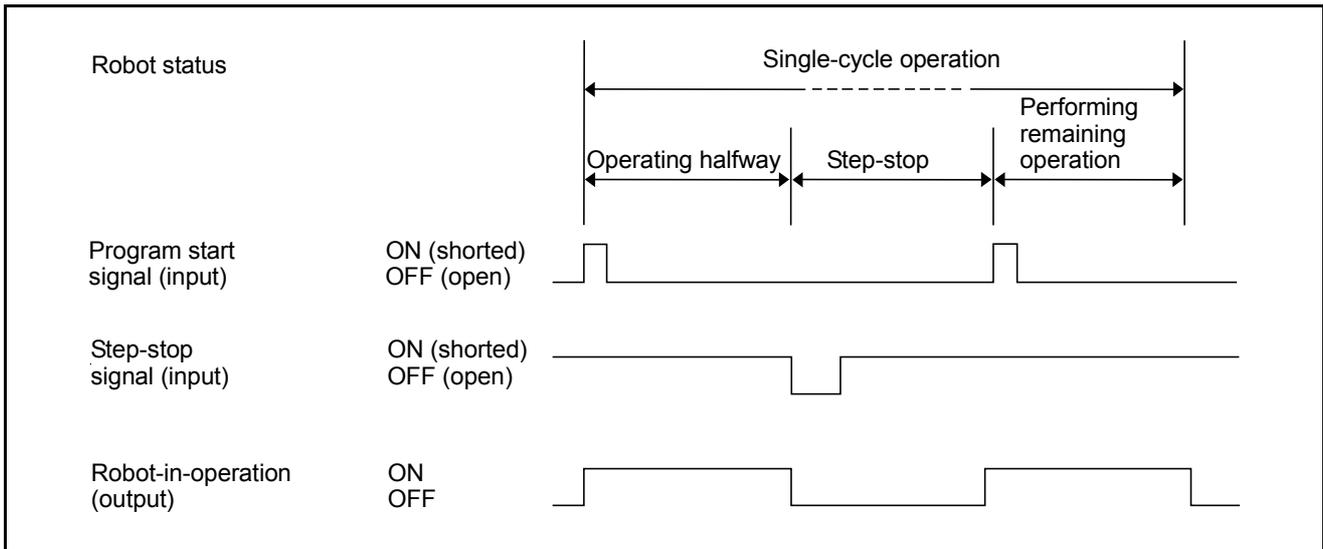

Figure 5-47 Step Stop Signal
**(3) Input conditions and operation**
- ① If the status of this signal is changed from ON (shorted) to OFF (open), the robot will stop all tasks immediately after the ongoing step is completed, and the Robot-in-operation signal will be turned OFF. However, External Auto mode will remain valid, and the suspended program will be resumed by inputting a program start signal. See Figure 5-47.
- ② Turning OFF (open) this signal when inputting a program start signal makes the robot stop step by step.
- ③ Internal operation with the teach pendant is valid only when the status of this signal is changed from ON (shorted) to OFF (open).
- ④ For resuming the program after a step stop, refer to Chapter 5 "5.5.4.4 Program Start (Input)".